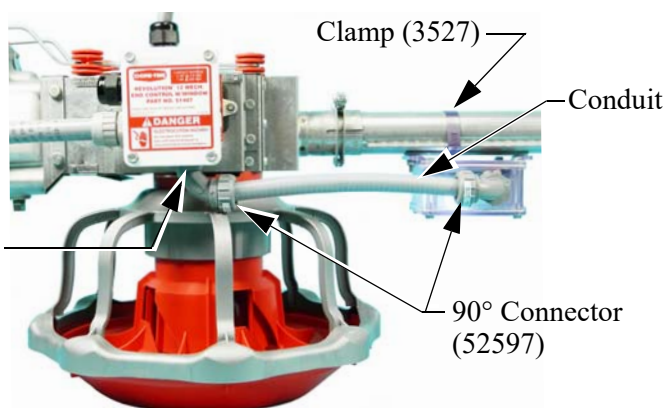

Figure 1. Light Kit Installation
1. Drill a 7/8" [2.22cm] hole in the bottom of the plastic box see **Figure 1**.